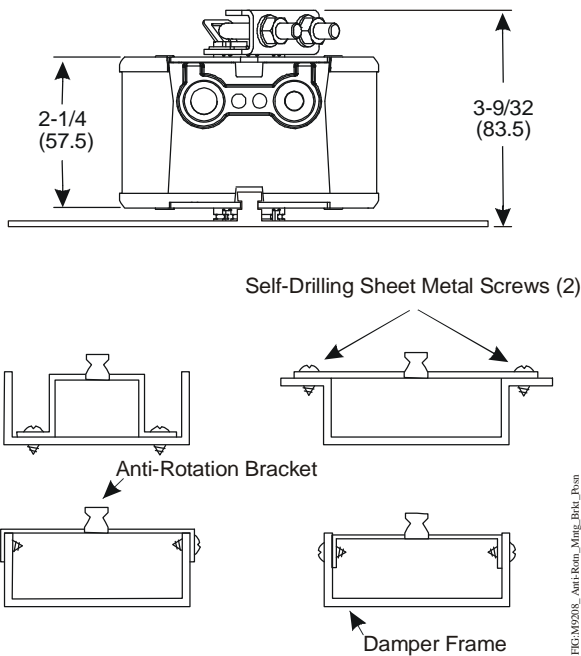

Figure 6: Anti-Rotation Mounting Bracket
2. Bend or cut the anti-rotation bracket to fit the damper frame or duct as illustrated in Figure 6.
5. Slide the actuator onto the damper shaft, and position the anti-rotation bracket tab into the slot at the bottom of the actuator as illustrated in Figure 6.